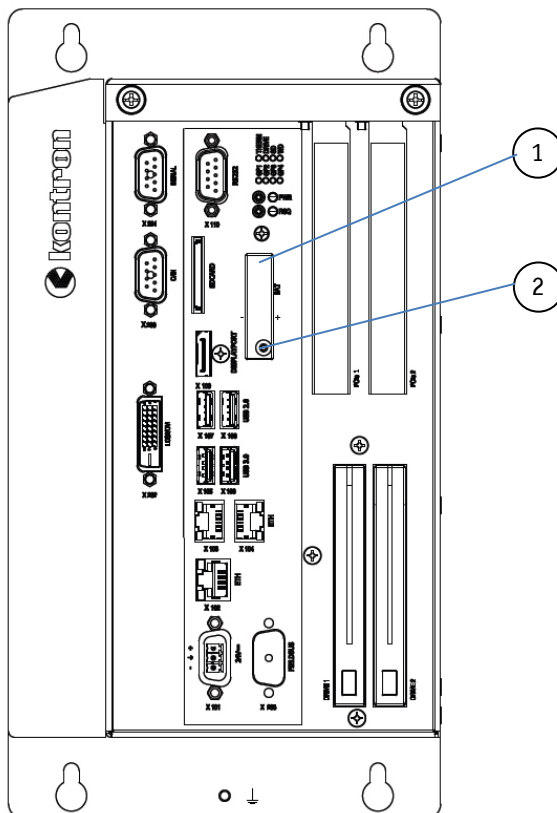
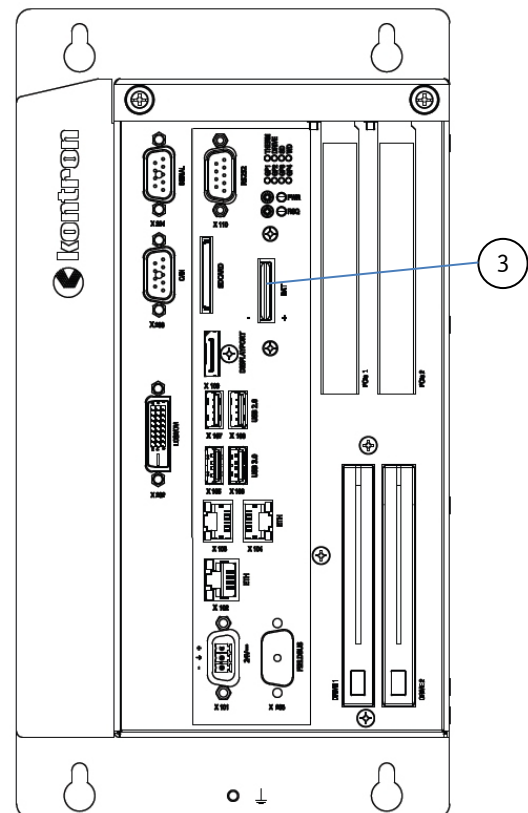

Fig. 4: Lithium battery location (shown with protective cover)
Fig. 5: Lithium battery location (externally accessible battery shown with removed protective cover)
Your KBox C-101 can be optionally equipped with an externally-accessible lithium battery (CMOS) (Fig. 5, pos. 3). The battery and the battery holder are covered by a protective cover (refer to Fig. 4, pos. 1) secured by a Philips countersunk head screw (Fig. 4, pos. 2).
Legend for Fig. 4 and Fig. 5: